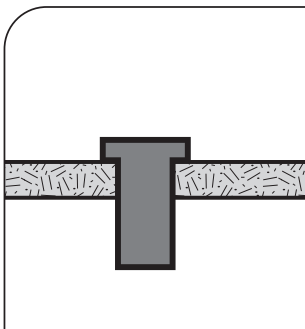

Fig. 3.5. Well-Nut is inserted into a pre-drilled hole with its flange against the outer surface. There is no need for access to the inner side.
11. Insert the $\frac{1}{4}$ " Well-Nut into the drilled holes so that only the flange section remains above the roof surface (Fig. 3.5).